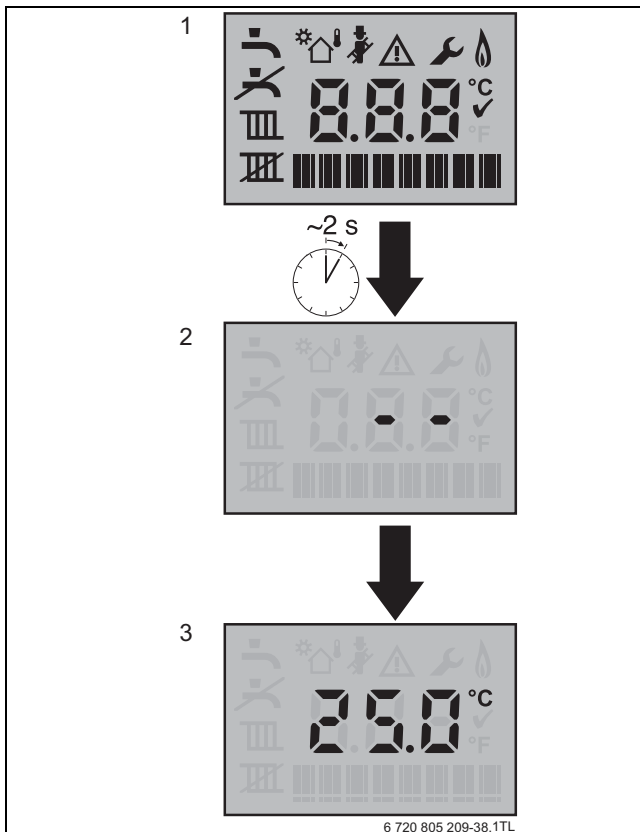

Fig. 67 Start up screens
- ▶ Turn on the mains power supply, initially the “Boiler start up screens” will be displayed (see figure 67:)